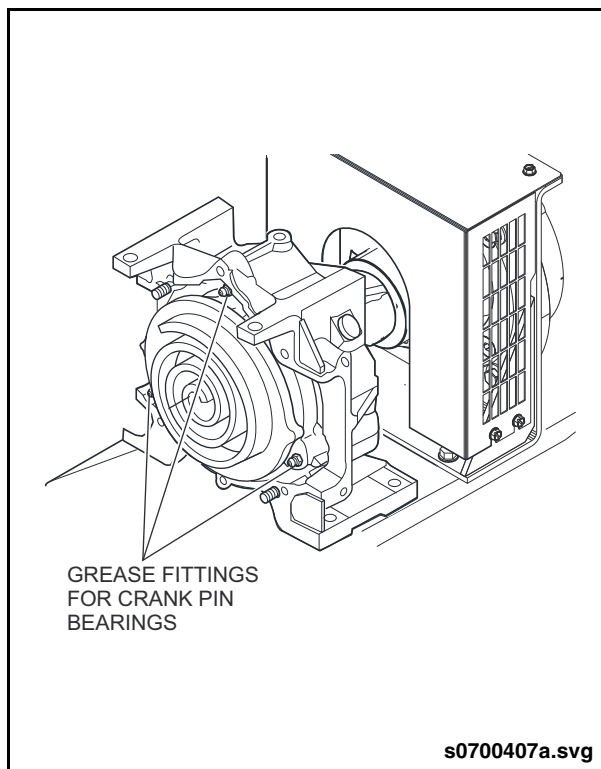

Fig. 3: Crank Pin Bearing Lubrication
5. Grease all three crank bearings. Deliver seven full pumps of grease to each grease fitting. See “Fig. 3: Crank Pin Bearing Lubrication” on page 4.